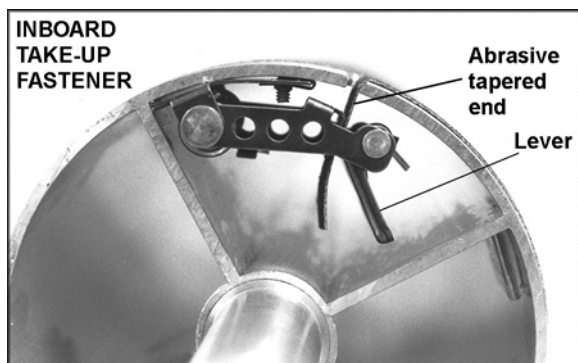

Figure 16
8. You can use your fingers to work the infeed take-up fastener, but it will be more convenient to use the TUFTool supplied with your sander. Hold the TUFTool with the red end pointing away from you (Figure 14) and insert its hook into the outside hole of the fastener lever (see Figure 16).
12. Hold the abrasive in place with your left hand, lift up the TUFTool and turn it clockwise while maintaining upward pressure. Slowly move the TUFTool away from you slightly, then down, while easing it out of the hole. This releases the lever in its proper position (Figure 16).